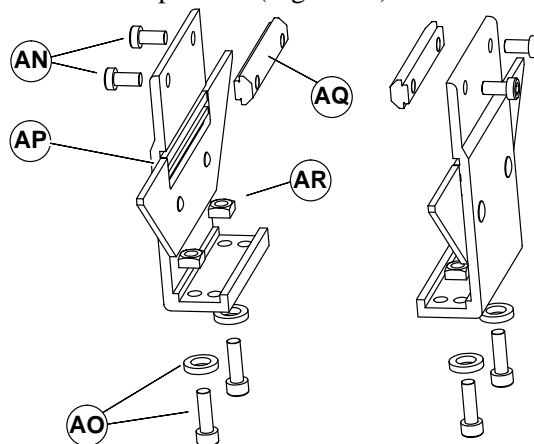
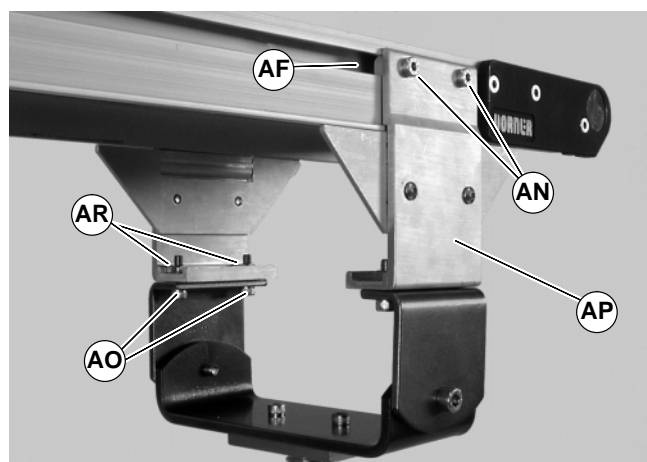

Figure 27
Figure 28
- Gather components (Figure 27).
- Remove screws (AN & AO of Figure 27), nuts (AR) and T-bars (AQ) from brackets (AP).
- Insert T-bars (AQ of Figure 27) into conveyor side slots (AF of Figure 28). Fasten brackets (AP) to conveyor with mounting screws (AN).